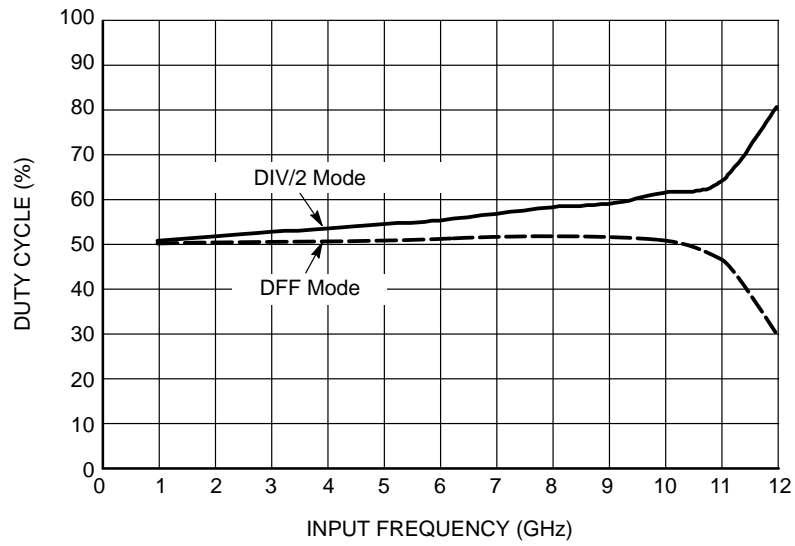

Figure 9. Duty Cycle % vs. Input Frequency (f_{in})
28. See Figure 9. Duty Cycle % vs. Frequency.